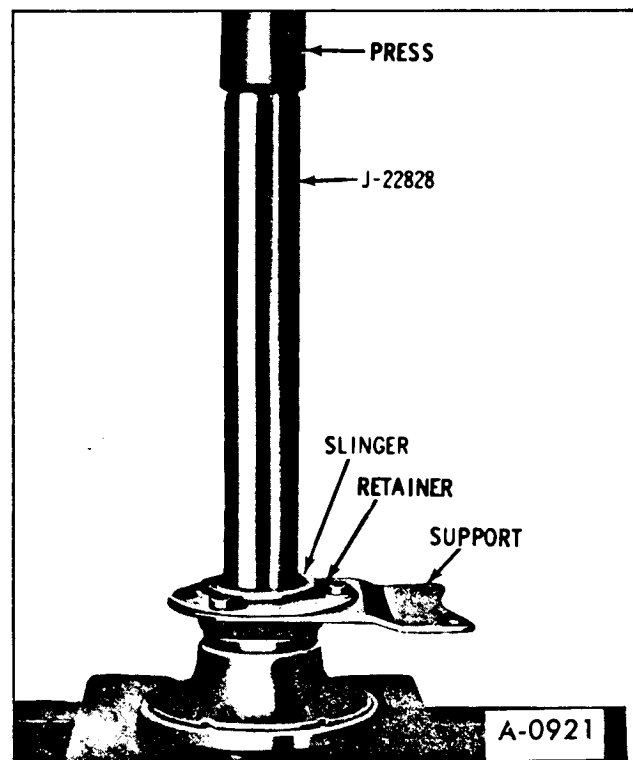

Figure 9—Installing Slinger
3. Pack area between bearing and retainer with wheel bearing grease, then install slinger as shown in Figure 9.